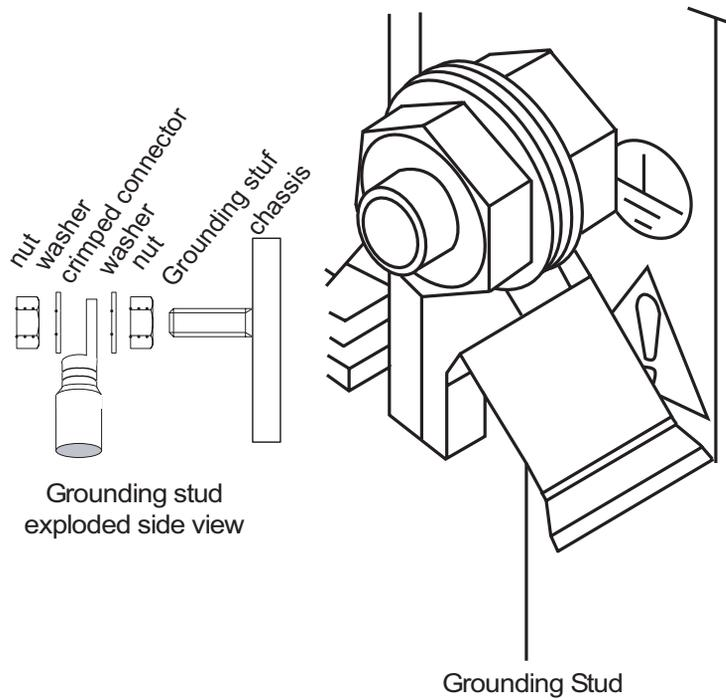

FIGURE 1-11 Primary grounding post exploded view
- Using a 12 awg grounding cable (green with yellow stripe), connect the chassis grounding stud to office primary ground using two nuts or a lock washer and a nut (for two secured points). Connect the wire to the grounding stud using a double crimp terminal (PANDUIT PMNF6-4R or equivalent). Refer to Figure 1-11